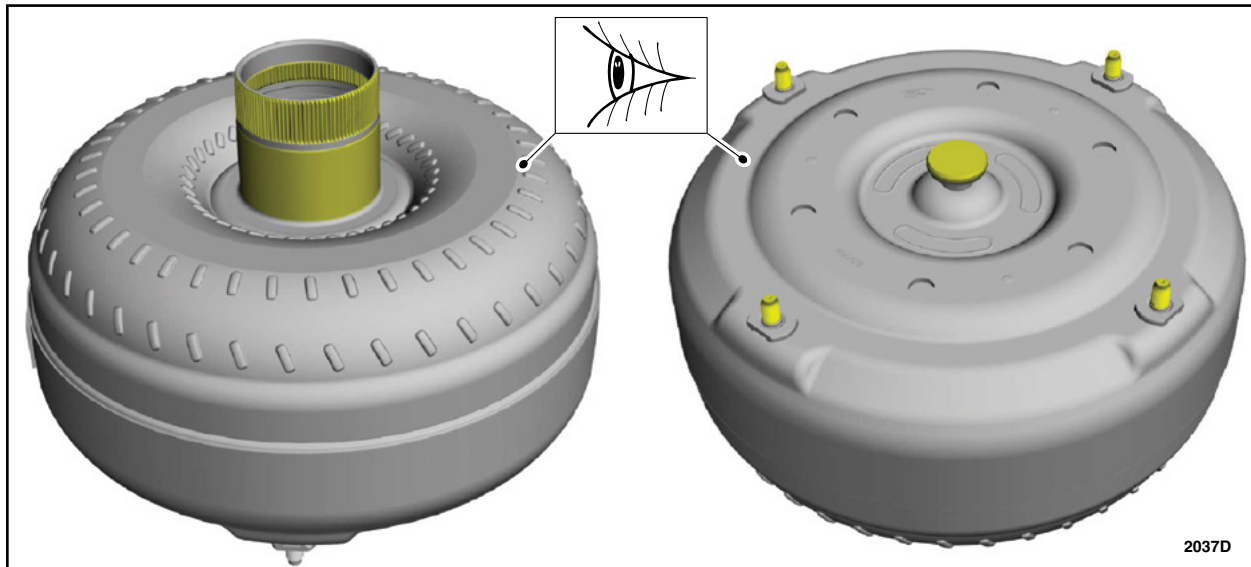

FIGURE 5
5. Inspect the torque converter. If you answer yes to any of the following questions a new or re-manufactured torque converter must be installed. See Figure 5.